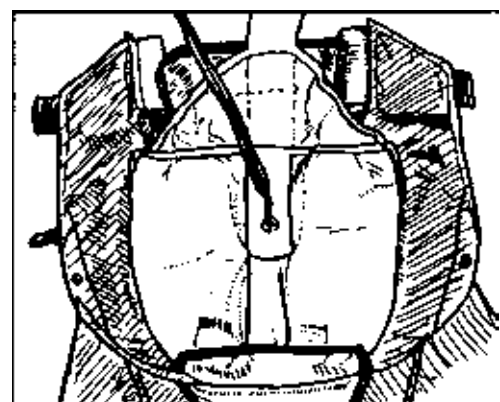

Figure 9
Step 21 Rotate the bag downward aligning the grommet in the bag and the grommet in the bag and the backpad *Figure 9*